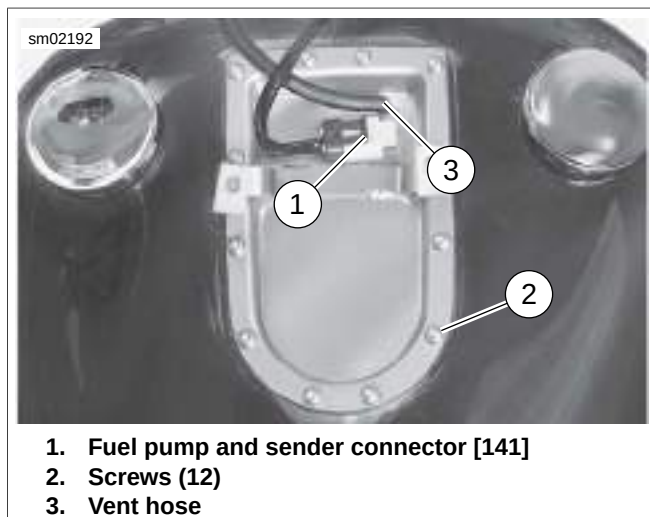
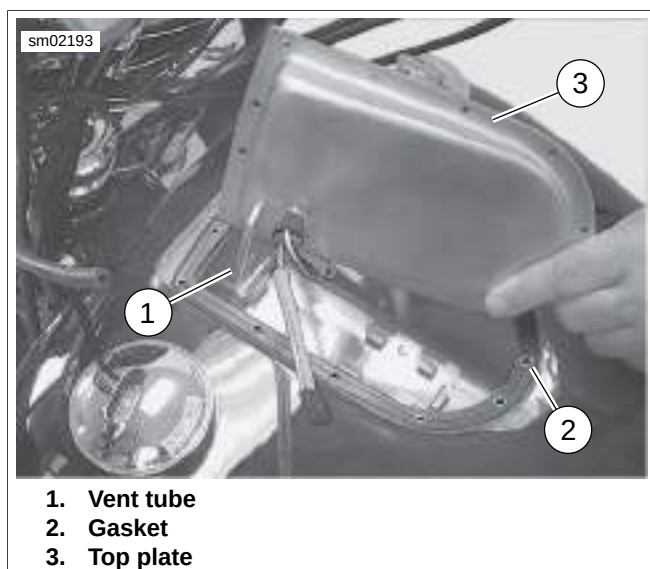

Figure 4-35. Top Plate Screws (Typical)
Figure 4-36. Fuel Line Clamp
6. See Figure 4-35. Unplug fuel pump and sender connector (1) [141].
7. Remove vent hose (3).
8. Remove top plate screws (2) and discard.
9. See Figure 4-36. On FXDL, FXDB, FXDF and FXDC models, rotate top plate (3) until vent tube (1) clears fuel tank.